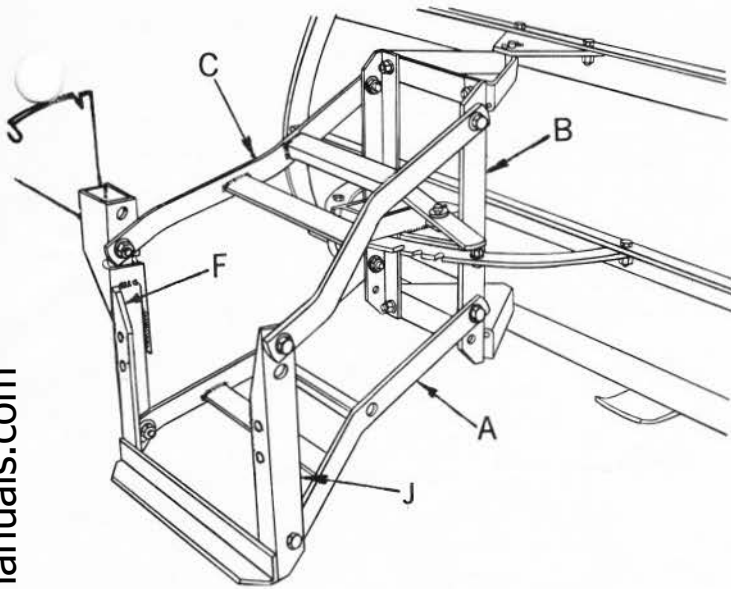

FIG. 1
2. Refer to Figure 1. Assemble lower lift frame (A) to lower holes in mounting angles (F & J) as shown with two 7/16 x 1-1/4 hex bolts through mounting angles (F & J) then through lower lift frame (A). Slip bushing over bolt and into lower lift frame (A), add flat washer, and secure with lock nut. NOTE: Head of bolt to outside, and lift frame (A) is inside mounting angles (F & J).
3. Slip flat washer then bushing on bolt and insert bolt through upper lift frame (C) and into mounting angles (F & J). Secure with lock nut. Note: lift frame (C) is outside of mounting angles (F & J). See Figure 1.
4. Refer to Figure 1. Assemble lower lift frame (A) to second hole from bottom of front frame (B) as shown. Slip washer on bolt then bushing and insert through lower lift frame (A) and into front frame (B). Secure with locknut.
5. Assemble upper lift frame (C) to upper holes in front frame (B) in same manner as lower lift frame was assembled to front frame. Tighten all nuts securely.